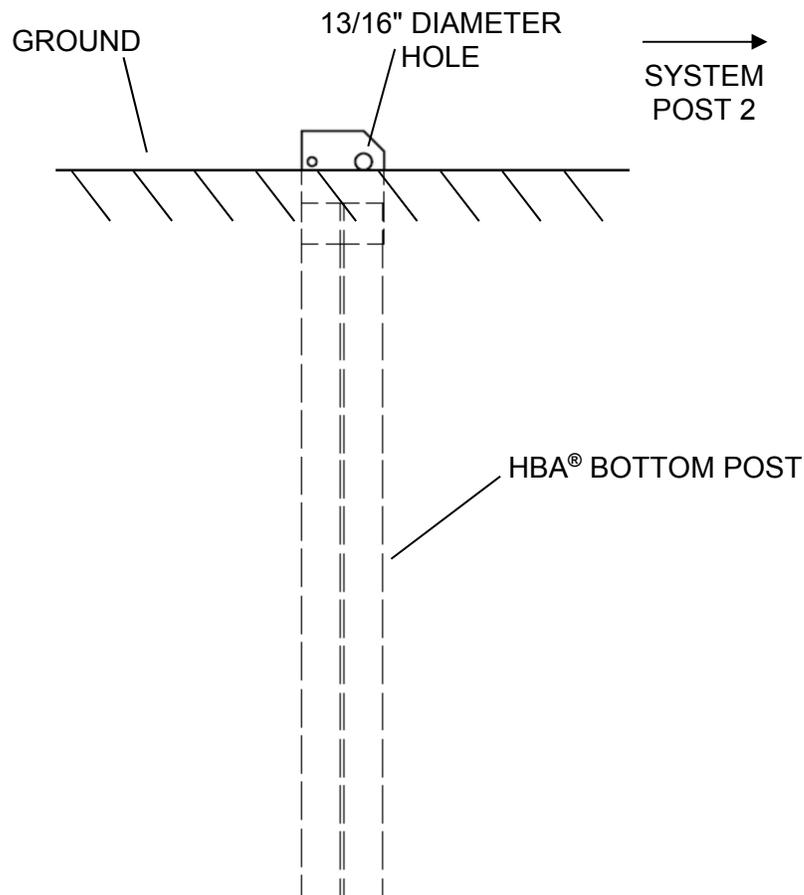

Figure 8 - HBA® Post (Post 1) Placement
2.4 Place the HBA® Bottom Post (i.e., Post 1) at the end post location (i.e., farthest from the existing guardrail). The bottom of the 13/16" diameter hole in the ears should be even with the ground (Figure 8).